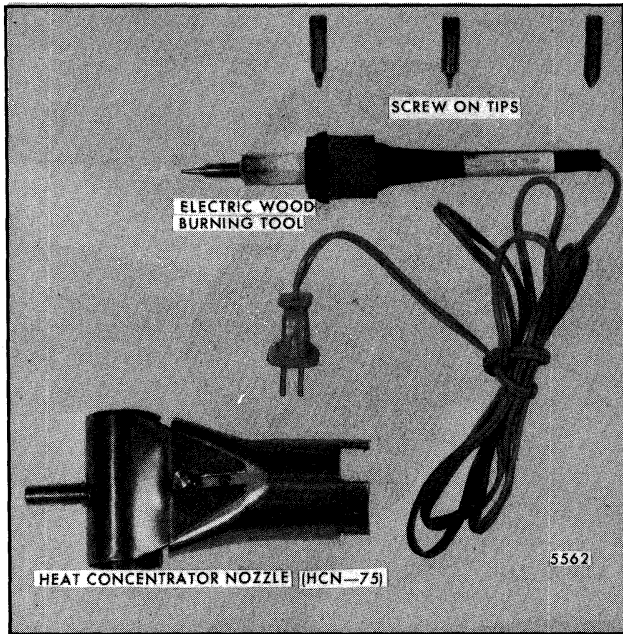

Fig. 8-62-Wood Burning Tool and Heat Concentrator Tool
9. Electric wood burning tool with screw-on tips (or equivalent)- used for smooth cuts, scuffs or gouges (Fig. 8-62).
6. Apply heat to damaged area using a hot air gun with heat control nozzle attached (Fig. 8-62).